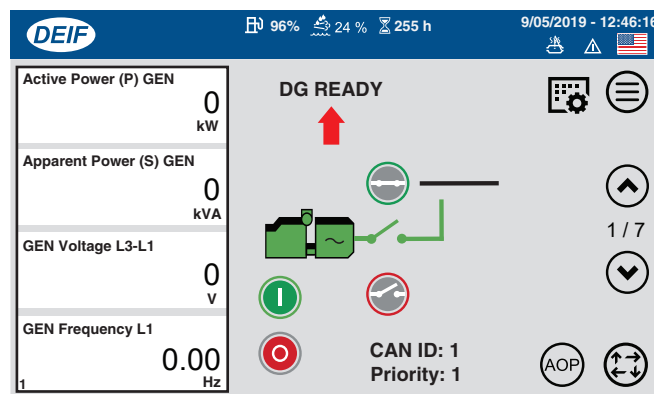

Figure 111. Status Message (DG READY)
4. Verify that the message **DG READY** (Figure 111) is shown on the touch display of **generator #1**.